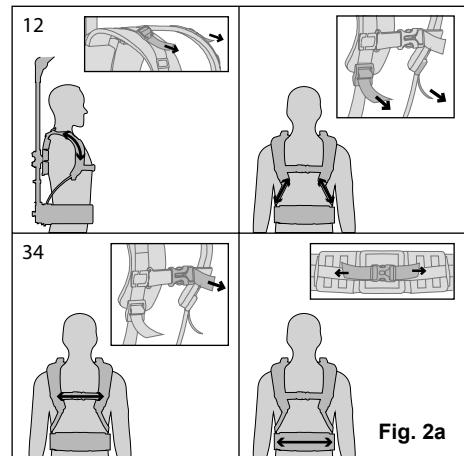

Fig. 2a
- Adjust the straps to personal preference. (Fig. 2a)